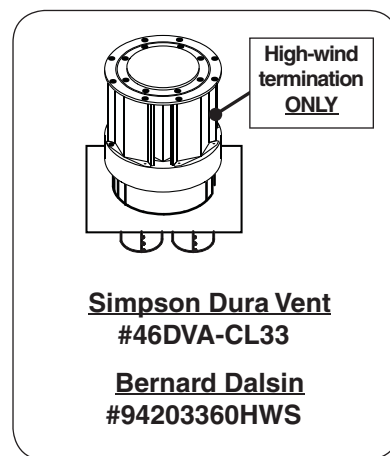

Fig. 21-1
- It is imperative that the appliance be installed using only one of the following RHP approved direct-vent flex kits (see Fig. 21-1):